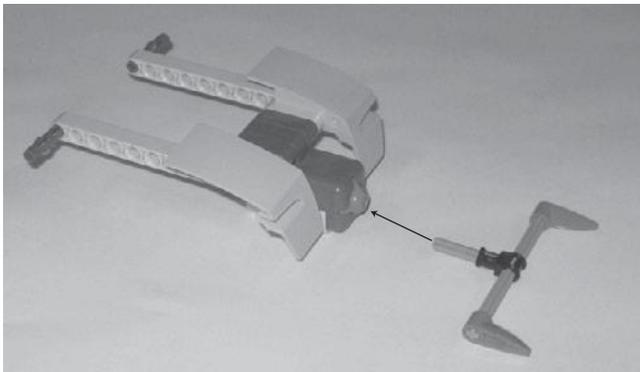

Figure 11.15
Step 2: Connect the component you assembled in the previous step to the touch sensor assembly, as shown in Figure 11.15.